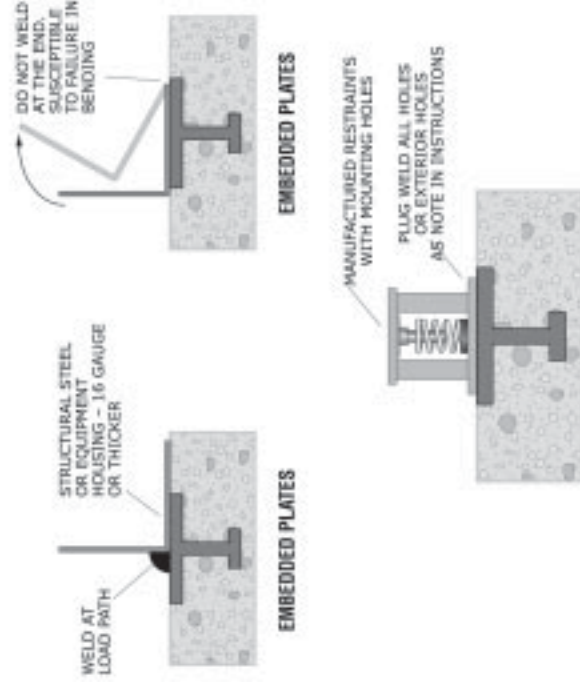

Figure 127: Welding to embedded plates.
**Attaching equipment to embedded plates:** Plates are embedded in the concrete during the floor or wall pour. Plates are firmly held in place while the concrete is poured to maintain proper alignment and position. The size and location of the plate can be determined from construction drawings. See Figure 127 (below) for weld locations.